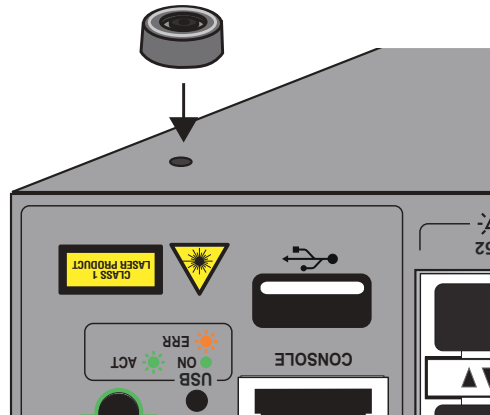

Figure 20. Placing the Bumper Foot on a Base Corner Hole
3. Place the bumper foot with rivet housing onto one of the holes in the base of the switch. Refer to Figure 20.